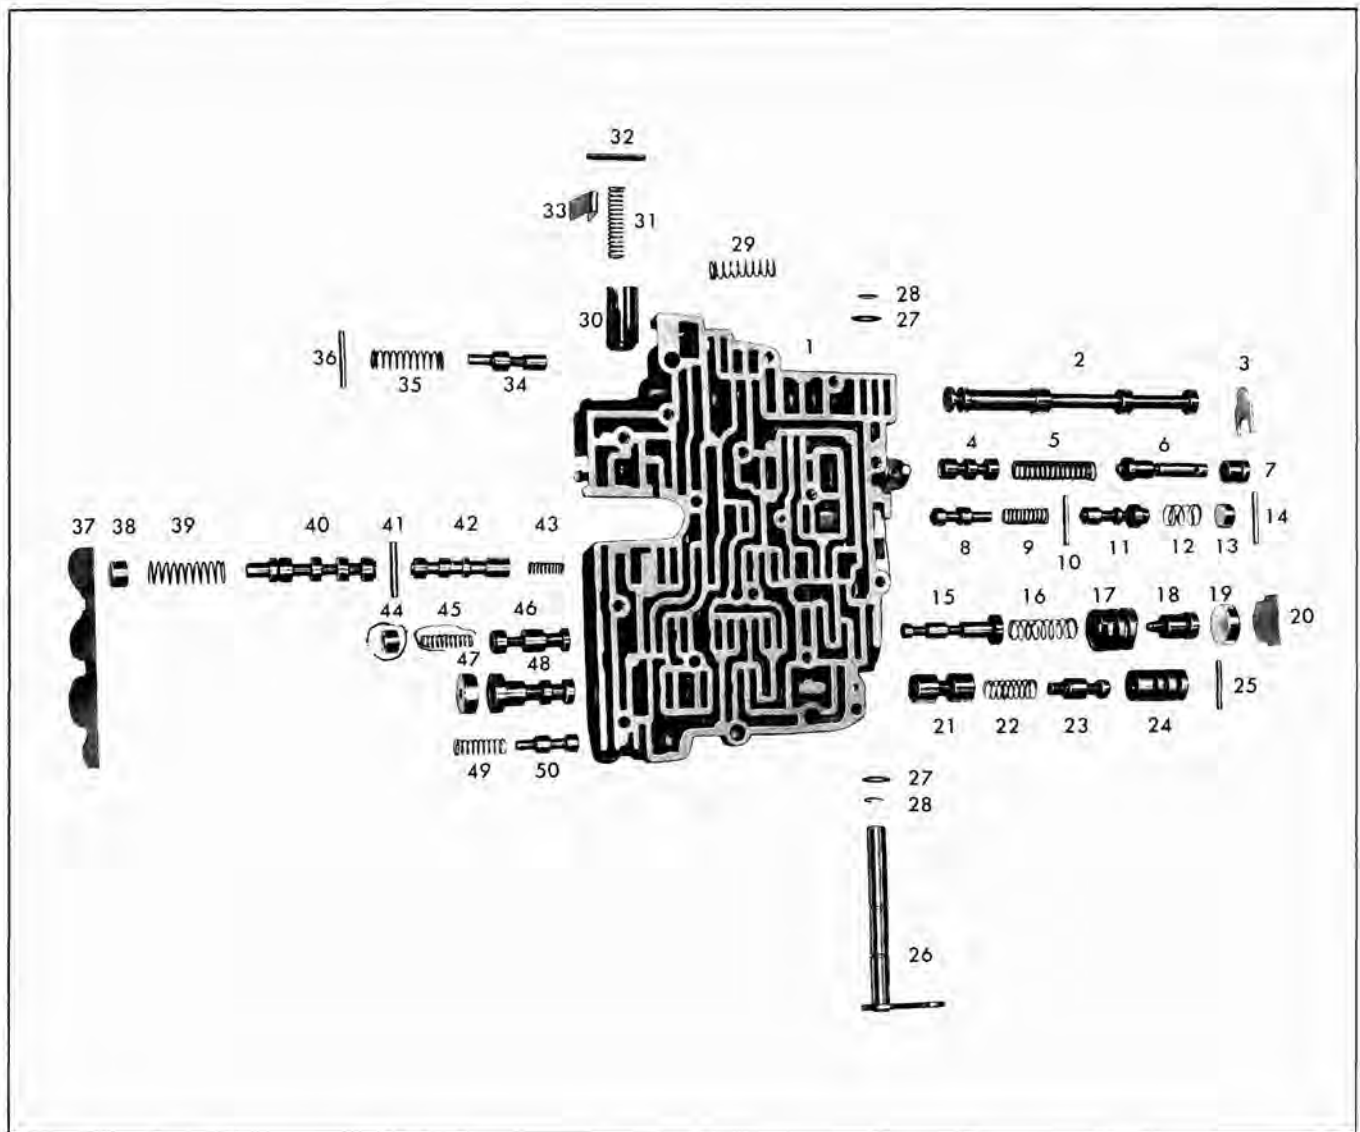

Fig. 111 Control Valve Assembly—Exploded
10. Remove the 3-2 downshift spring and valve from the lowest bore (Fig. 111).